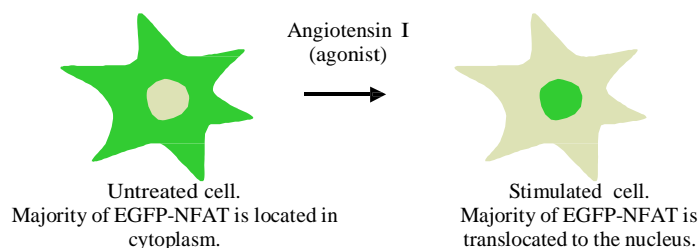

Figure 1. Illustration of the NFAT translocation in the AT1R:NFATc1 assay
Angiotensin activates a wide spectrum of signaling responses via the Angiotensin II Type-1 receptor (AT1R) having immediate physiological effects on vasoconstriction and blood pressure regulation as well being implicated in inflammation, endothelial dysfunction, atherosclerosis, hypertension, and congestive heart failure. AT1R is a member of the superfamily of G protein-coupled receptors (GPCRs) and couples to G α q [1,2]. In this assay, the AT1R has been transfected into the GPCR Reporter Assay for Gq-coupled Receptors, where receptor activation leads to release of cytoplasmic Ca²⁺, which in turn induces NFATc1 translocation. Binding of an agonist to the extracellular parts of AT1R causes a conformational change in the receptor. This leads to activation of heterotrimeric Gq proteins, subsequent release of G α q from the beta-gamma subunit and activation of phospholipase C, which catalyzes the formation of DAG and IP₃ from PIP₂. Free IP₃ diffuses into the cytoplasm, and activates IP₃ receptors on the endoplasmic reticulum (ER) resulting in Ca²⁺ release from the ER into the cytoplasm. Elevated calcium levels leads to dephosphorylation of NFATc1 and rapid translocation from the cytoplasm to the nucleus [3,4]. Figure 1 illustrates the translocation of NFATc1 upon agonist stimulation of AT1R. The AT1R:NFATc1 assay is designed to screen for agonists causing AT1R activation and thereby nuclear translocation of GFP-NFATc1. Test compounds having activity in the assay are considered to be agonists of AT1R. Angiotensin I is used as reference compound in the assay.